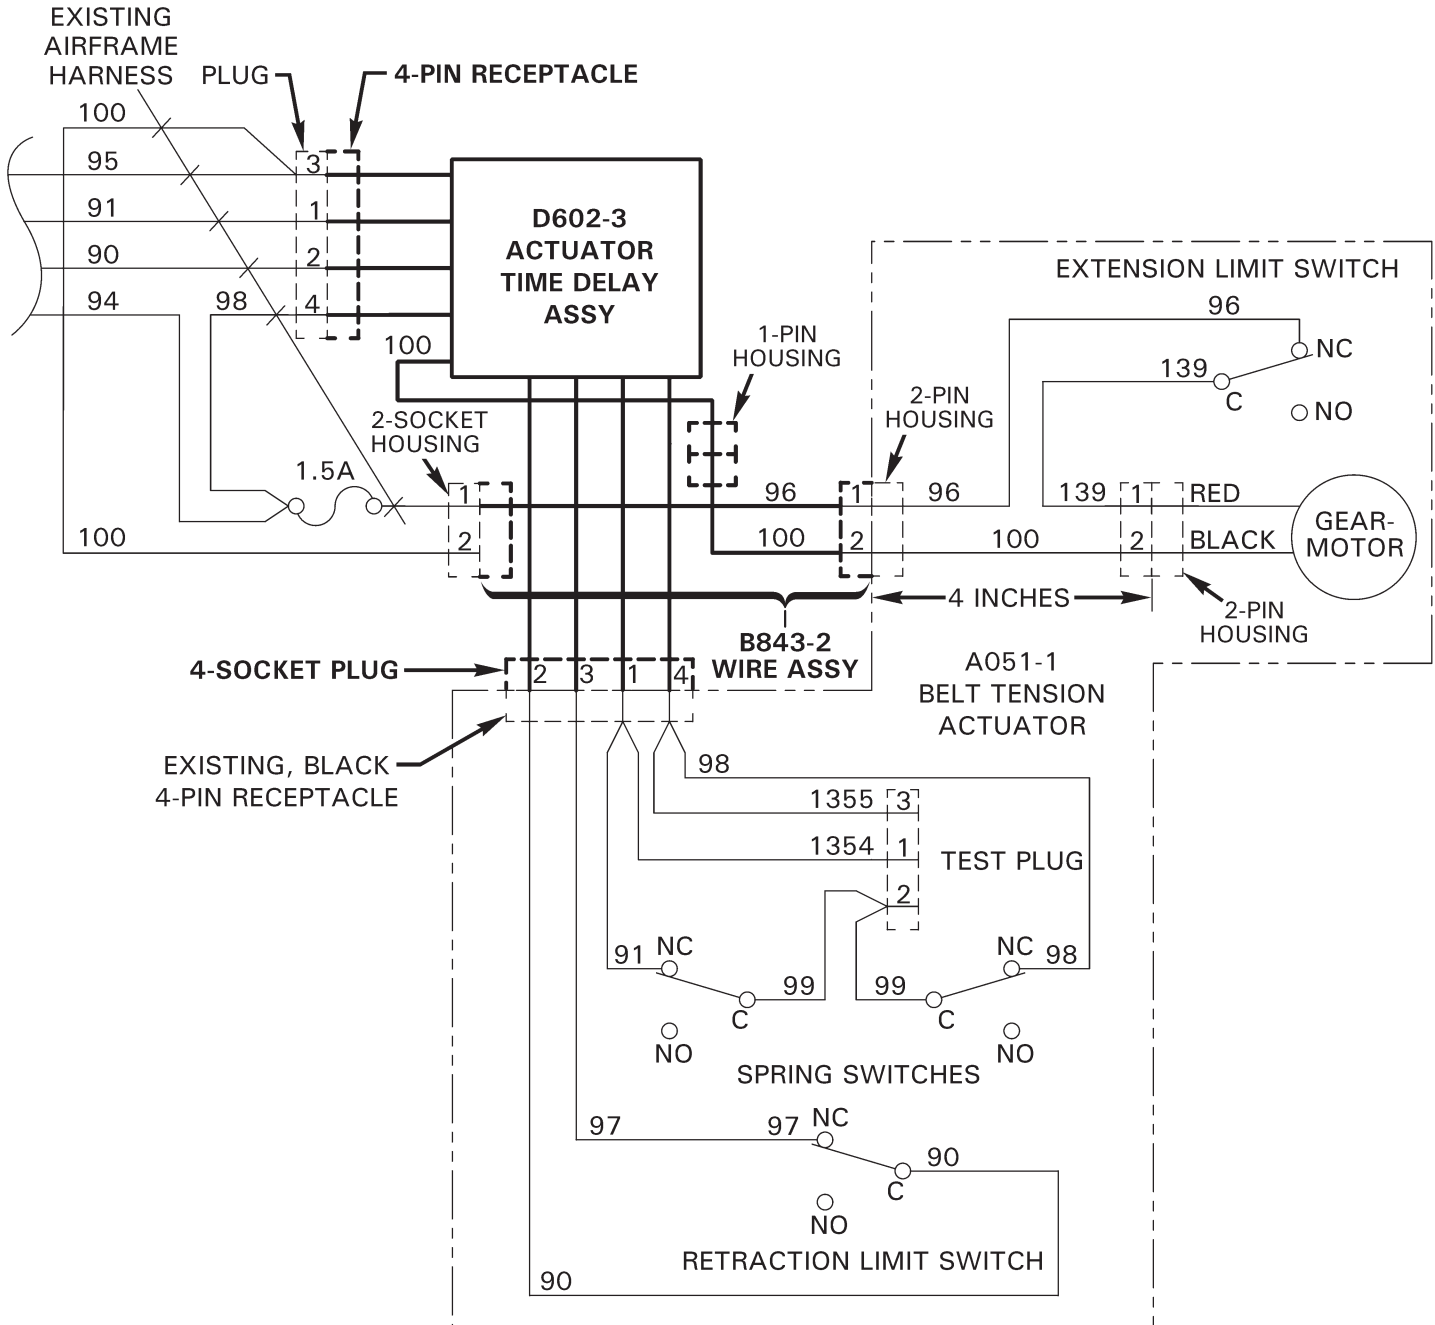

FIGURE 1
4. Refer to Figure 1 schematic. Connect (supplied) D602-3 time delay’s 4-socket plug to actuator wiring’s black 4-pin receptacle; connect time delay’s 4-pin receptacle to airframe harness plug; connect time delay’s 1-pin housing to 1-socket housing on (supplied) B843-2 wire assembly.
7. Secure D602-3 time delay to upper frame using (2) MS3367-7-9 ty-raps. Cinch ty-raps until snug without over-tightening, and trim tips flush with heads. Verify security and operating clearance to adjacent tail rotor A121-15 push-pull tube.